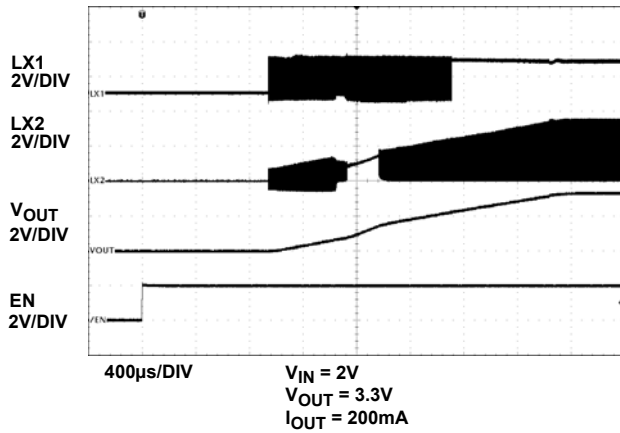

FIGURE 1. ISL91108 START-UP WITH $V_{IN} = 2V$ and $V_{OUT} = 3.3V$
7. Monitor the output voltage startup sequence on the scope. The waveforms will look similar to that shown in Figures 1 and 2.